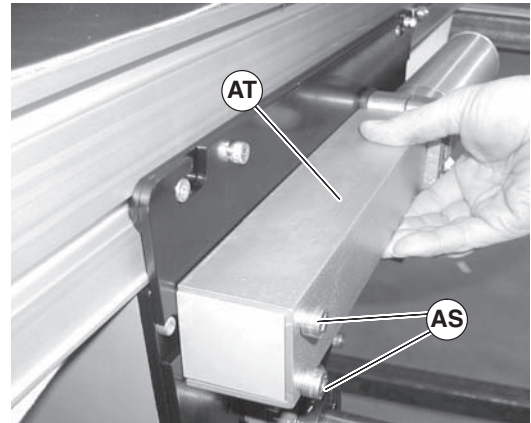

Figure 62
2. Remove screws (Figure 62, item AS) and tensioning guards (AT) from both sides of center drive.